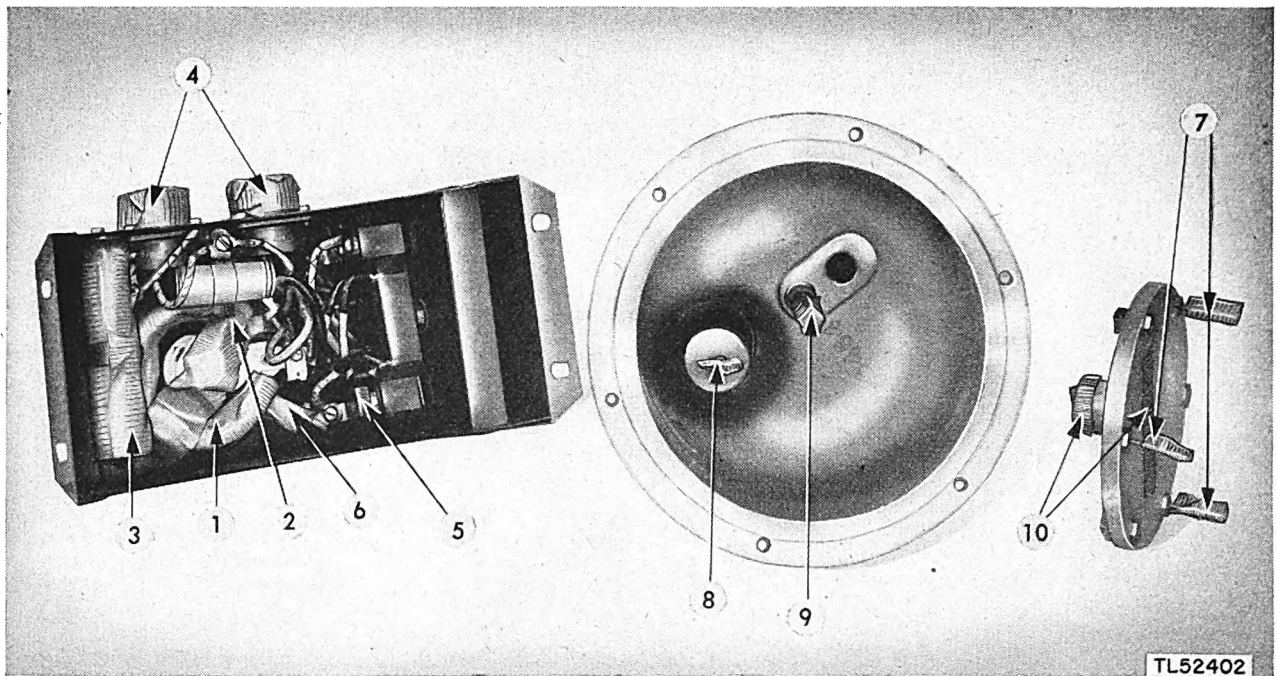

Figure 8. Generator parts masked for spraying.
(o) Pull the brush out of the brush holder, 9, (fig. 8) in the spark wheel housing.
(3) **MASKING** (fig. 8). Cover the following parts with masking tape: